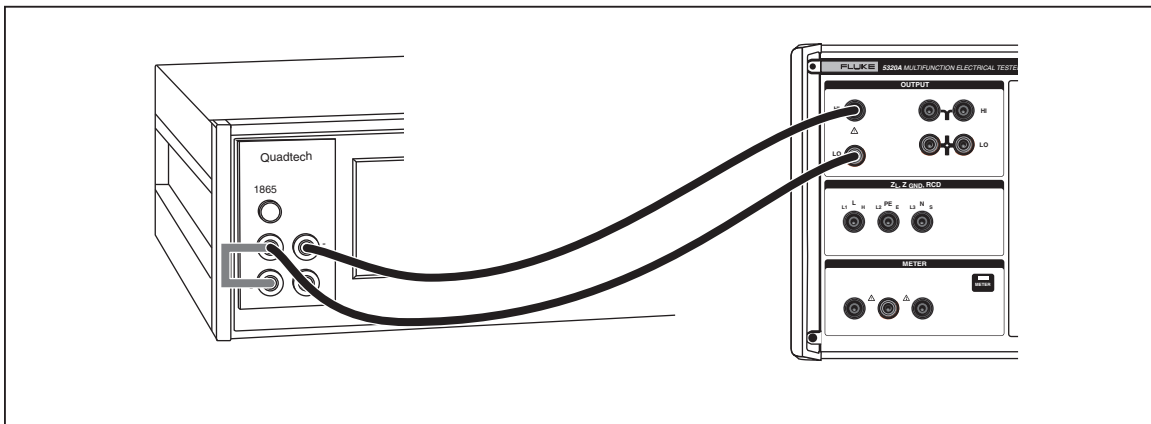
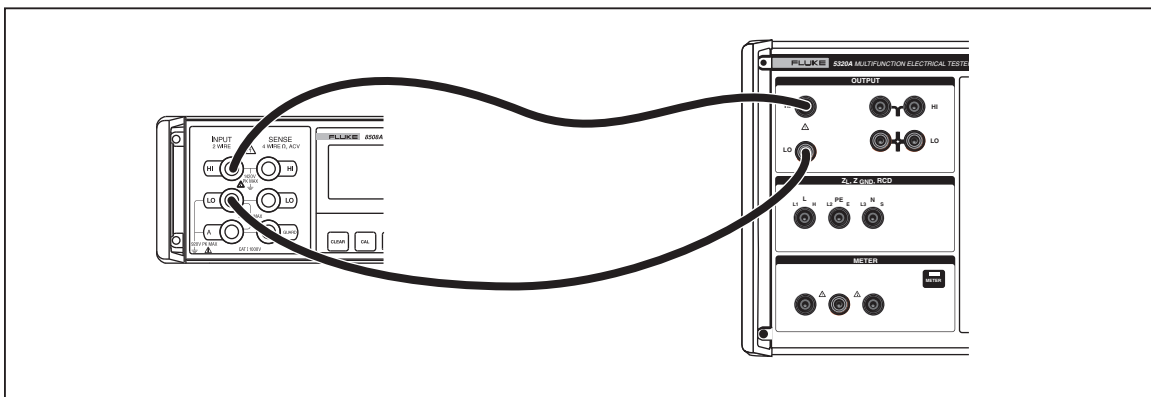

Figure 3-5. High Resistance Source (>10 MΩ) Calibration Connections
Figure 3-6. High Resistance Source (<10 MΩ) Calibration Connections
1. Connect the Calibrator directly to the Megohmmeter (for values above 10 MΩ) as shown in Figure 3-5 or to the multimeter (for values less than 10 MΩ) as shown in Figure 3-6.